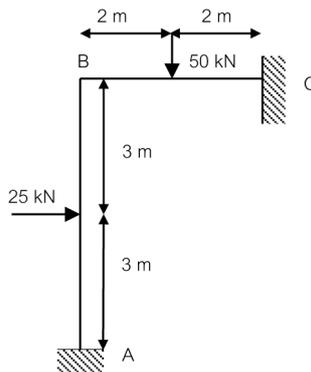

Figure Q.4
- 4 Analyze the rigid frame shown in Figure Q.4 by the direct stiffness matrix method. Given that the Elastic modulus (E) = 200 GPa, Cross sectional area (A) = $4 \times 10^{-2} \text{ m}^2$ and the second moment of inertia (I) = $1.33 \times 10^{-4} \text{ m}^4$.